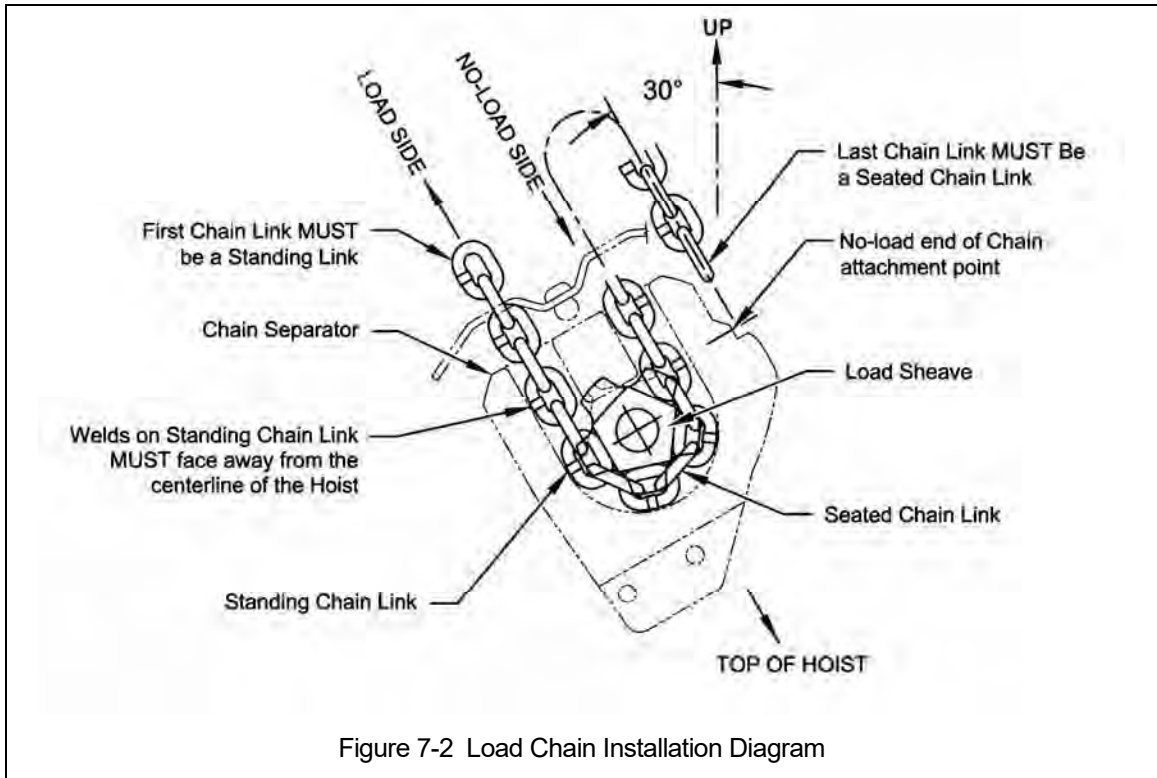

Figure 7-2 Load Chain Installation Diagram
- 5) **⚠ CAUTION** Invert the hoist such that the chain separator openings are facing up and tilt the hoist approximately 30° as shown in Figure 7-2. Insert the chain into the chain separator on the no-load side opening making certain that the first link is a standing link and that its weld is facing away from the centerline of the hoist.